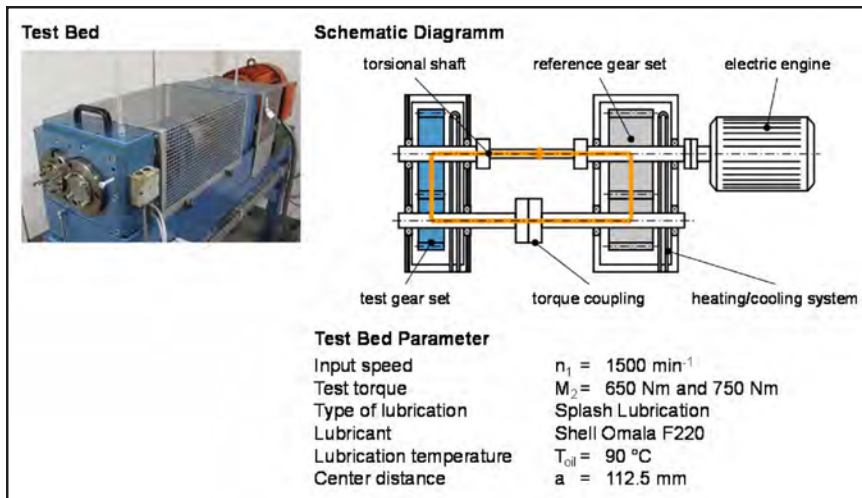

Figure 6 Back-to-back test rig according to DIN 51354-1 and testing parameters.
**Test bed and approach.** Gear testing has been carried out at the Laboratory for Machine Tools and Production Engineering (WZL), RWTH Aachen University. The gears were tested on a 112.5 mm center distance back-to-back contact fatigue test rig at  $n_2 = 2,450$  rpm, at the pinion and with  $n_1 = 1,500$  rpm, at the input shaft. As lubricant Shell Omala F220 oil at  $T_{oil} = 90^\circ\text{C}$  was used for splash lubrication. The used back-to-back test rig, according to DIN 51354-1 (Ref. 16) and its principle, are shown in Figure 6.